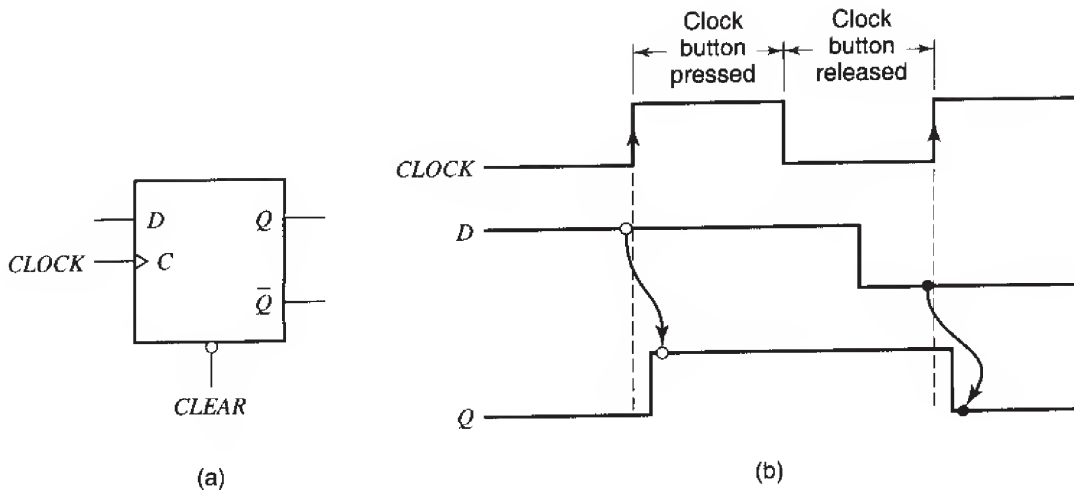
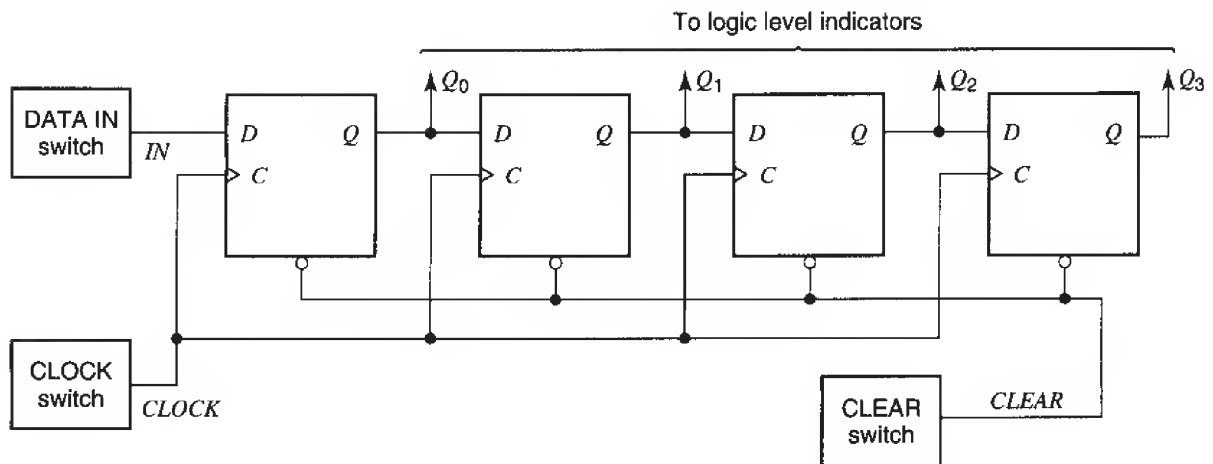

Fig. 2
Fig. 7
A *positive-edge-triggered D flip-flop* is shown in Fig. 2(a). Assume first that the *CLEAR* signal is high. Then the flip-flop has the following property: *Data at the input, D, is transferred to the output, Q, when the clock signal makes the transition from low to high.* That is, if the input *D* is steady at a logic 1 when the clock goes to high, the input logic 1 is transferred to the output *Q*; if, instead, the input is 0 when the clock goes to high, this 0 is transferred to the output. The data is held at the output until the next low-to-high clock transition. These properties are illustrated in Fig. 2(b). In this figure, we also indicate the fact that the new output appears after a very small delay (typically in the tens of ns). Since the input data are transferred to the output when the clock goes from low to high, this is called a *positive-edge-triggered D flip-flop*. For correct operation of this flip-flop, the data at *D* must be steady before the clock low-to-high transition takes place, at least for the minimum time specified by the flip-flop manufacturer (e.g., for 20 ns).
10. Consider the four-stage shift register in Fig. 7, *but do not build it yet*. Assume that all outputs are cleared and then a 1 is placed at the input  $IN$ . Assume that the clock button is pressed and released *once*. What will the values of  $Q_0$ ,  $Q_1$ ,  $Q_2$ , and  $Q_3$  become? [Hint: When the clock goes from low to high, each flip-flop transfers to its  $Q$  the value that existed at its  $D$  just before the clock transition; see Fig. 2(b).]
11. Now build the circuit of Fig. 7. All four D flip-flops needed can be found inside the same 74LS175 chip, the pin assignment for which was given in Fig. 4. It will help if, before starting to build the circuit, you mark Fig. 7 with the appropriate pin numbers from Fig. 4. *Be sure to connect the ground and supply pins*. If no logic level indicators are provided on your breadboard, use four indicators of the type shown in Fig. 5.
19. Lower the frequency of the signal to 1 Hz. *Disconnect the clock switch circuit from the input of the shift register of Fig. 7, and connect instead your function generator output to it, as shown in Fig. 8.* The LED at the function generator output should be lighting up 1 time per second.